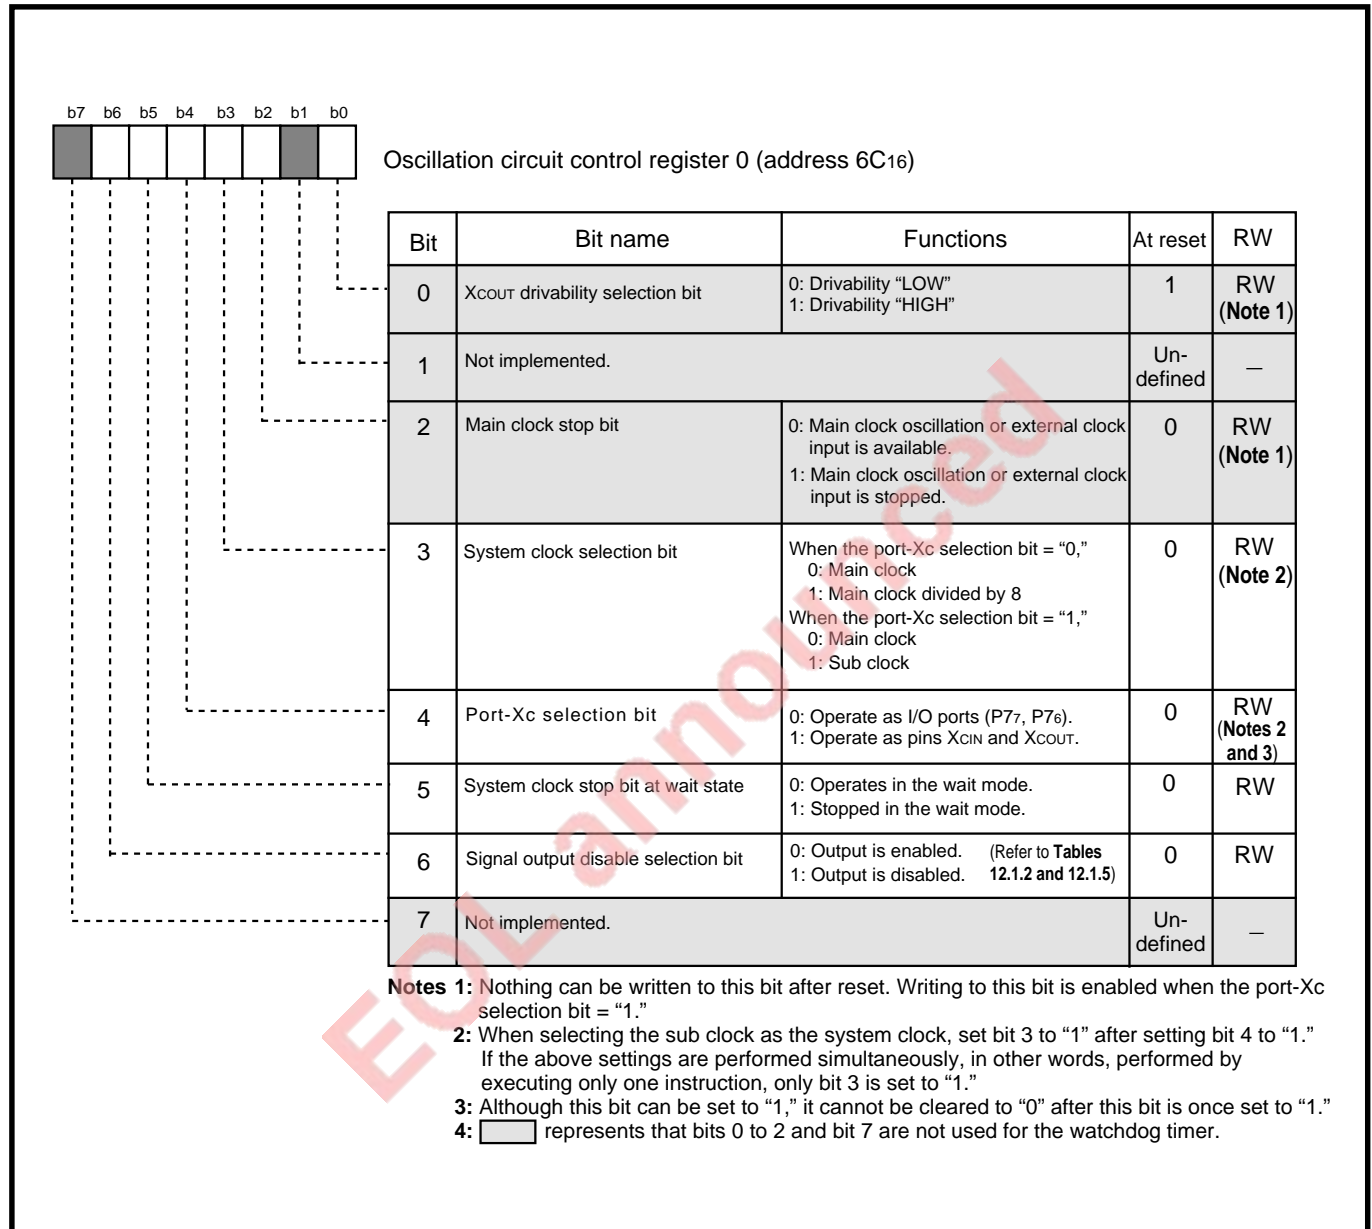
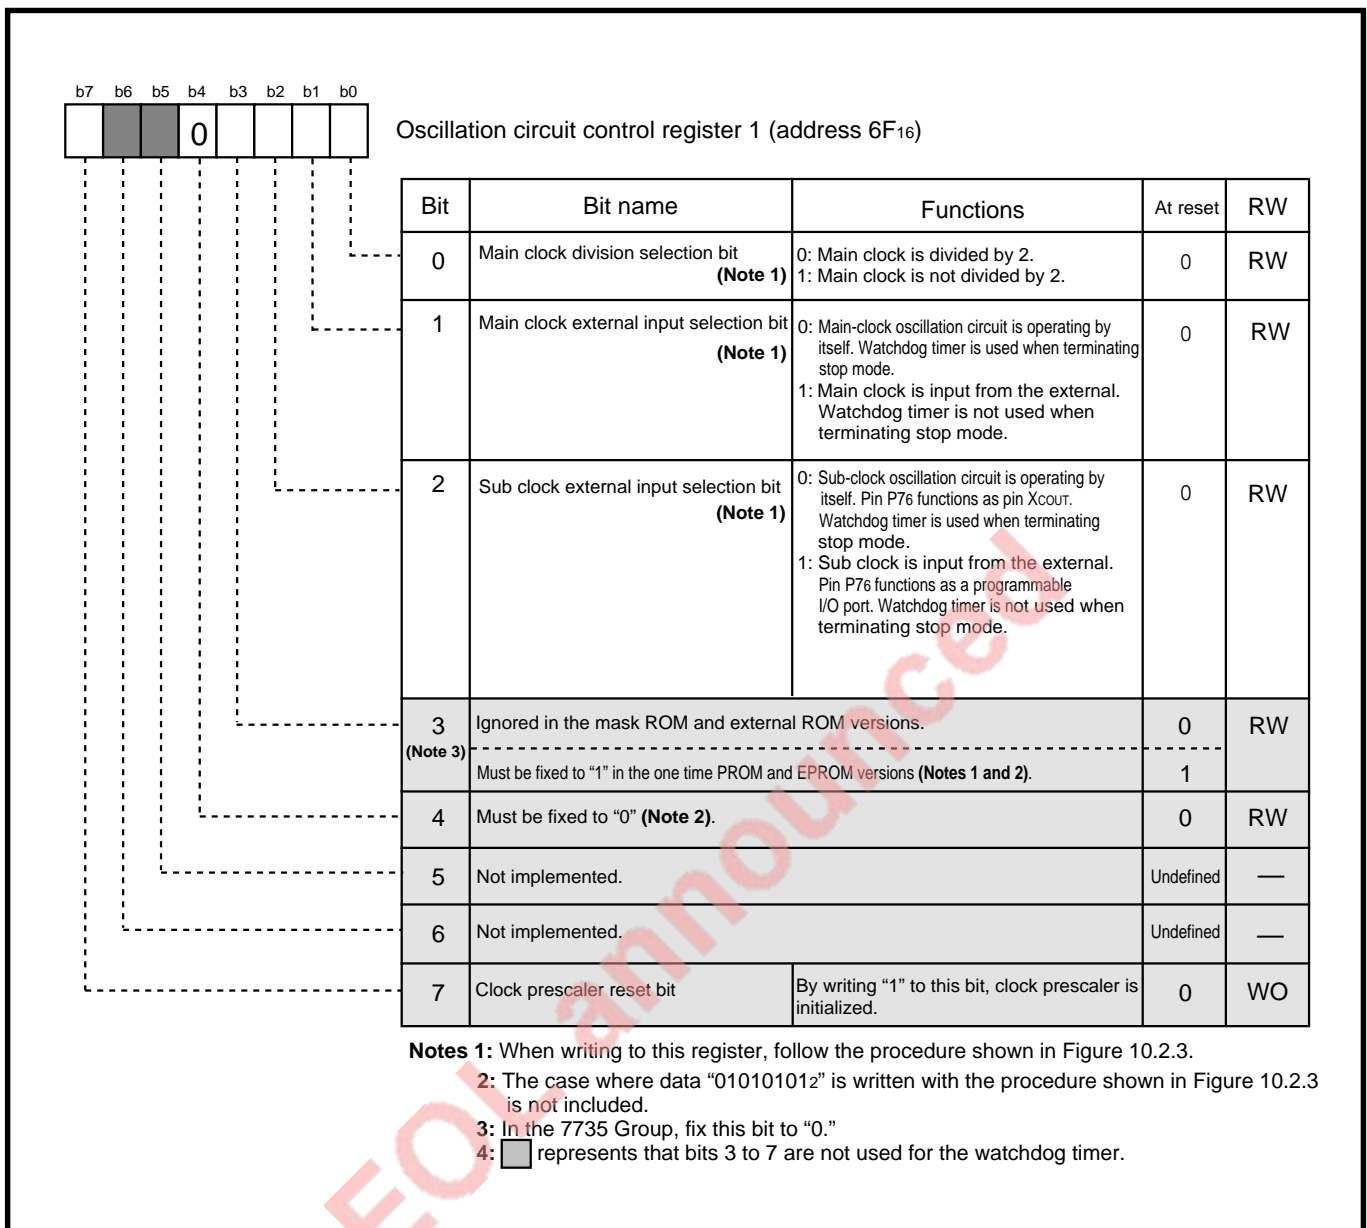
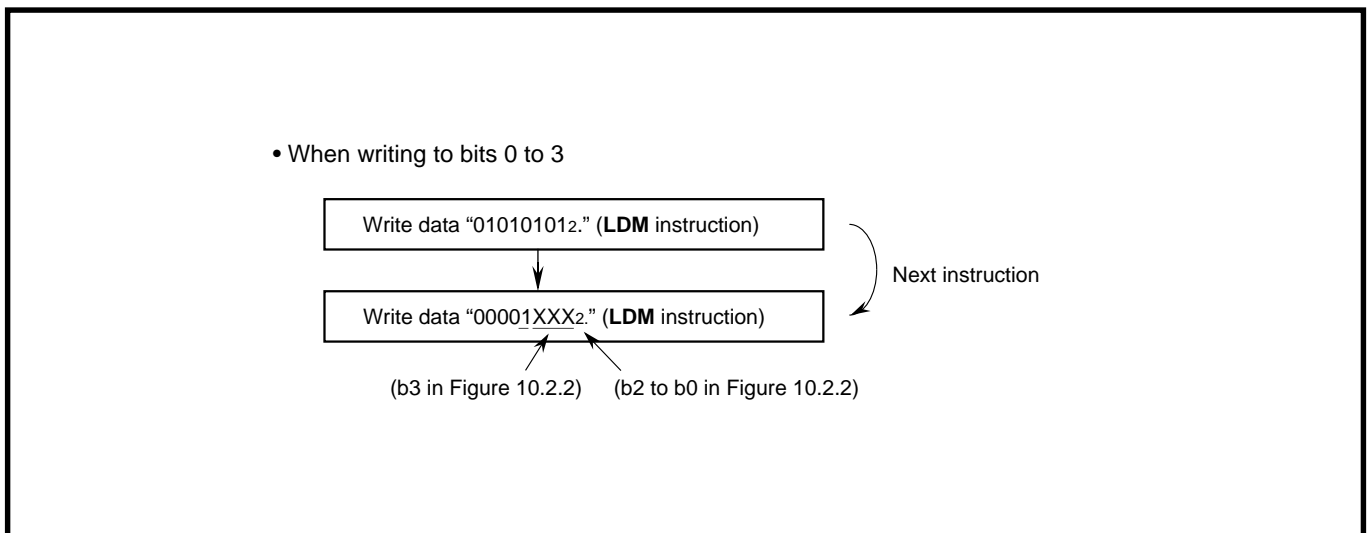

Fig. 10.2.1 Structure of oscillation circuit control register 0
Fig. 10.2.2 Structure of oscillation circuit control register 1
Fig. 10.2.3 Procedure for writing data to oscillation circuit control register 1
**Notes 1:** This is applied when the system clock selection bit (bit 3 at address 6C16; Refer to **Figure 10.2.1**) = "0" and the main clock division selection bit (bit 0 at address 6F16; Refer to **Figure 10.2.2**) = "0."
**2:** This is applied when the port-Xc selection bit (bit 4 at address 6C16; Refer to **Figure 10.2.1**) = "1" and the system clock selection bit = "1."
**Note:** For each bit's function, refer to **Figures 10.2.1 and 10.2.2**. For the procedure of writing to the main clock external input selection bit and the sub clock external input selection bit, refer to **Figure 10.2.3**.
When the system clock stop bit at wait state (bit 5 at address 6C16 ; Refer to **Figure 10.2.1**.) = "1," the watchdog timer stops operating in the wait mode. Furthermore, after the wait mode is terminated, the watchdog timer restarts counting from the same state as that before the watchdog timer stops.